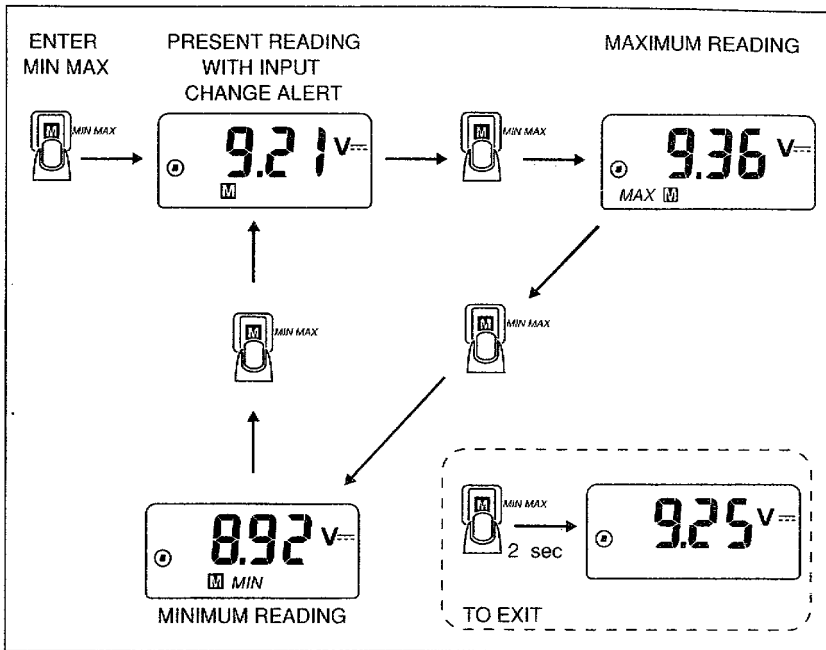

Figure 7. Displaying Minimum and Maximum Reading
4. Press **[M]** to cycle through maximum, minimum, and present readings (see Figure 7). To exit MIN MAX and erase the stored readings, press **[M]** for 2 seconds or change the measurement function.